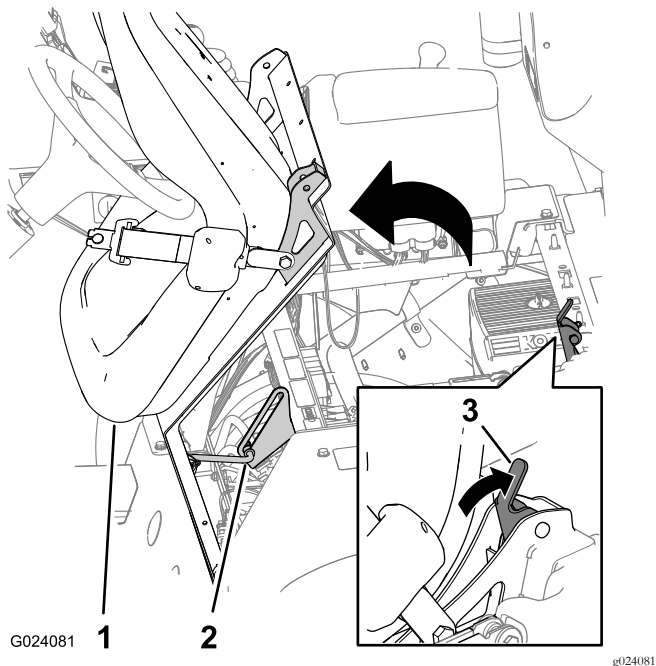

Figure 1
2. Unlatch the seat by pushing the seat-latch handle rearward (Figure 1).
3. Rotate the seat and seat plate forward until the end of the prop rod, at the prop-rod bracket, is at the bottom of the slot in the bracket (Figure 1).